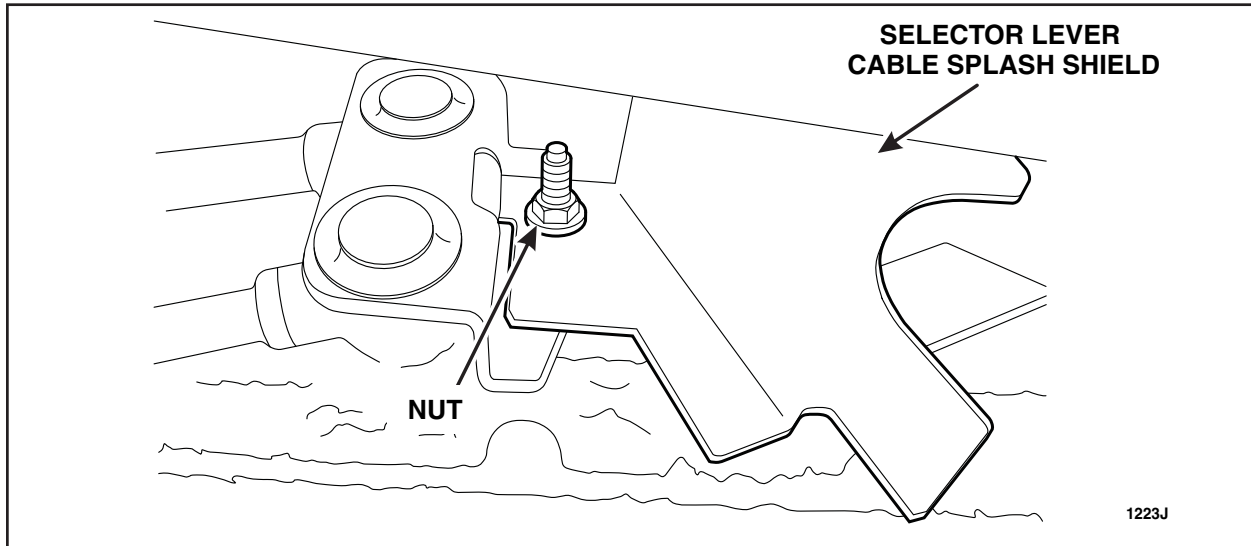

FIGURE 1
6. If equipped, remove the nut and the selector lever cable splash shield. See Figure 1.